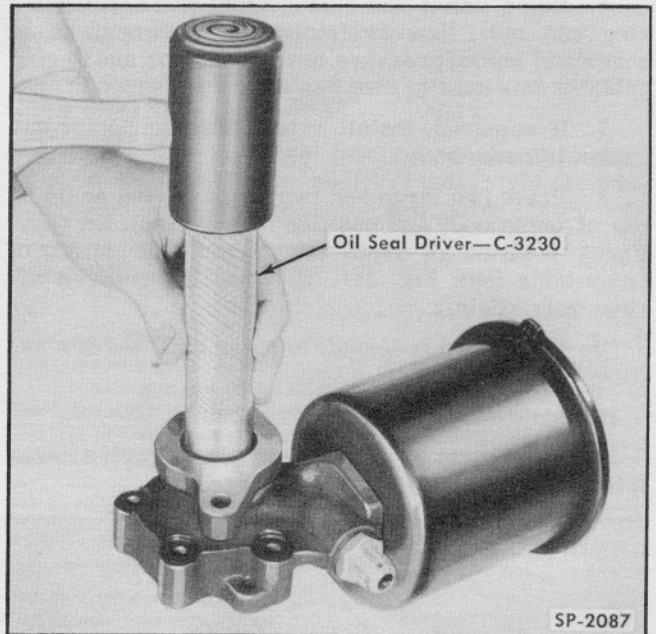

Fig. 19—Installing Pump Shaft Oil Seal
1. If old seal was removed, wet lip of new pump shaft oil seal in automatic transmission fluid and install in pump body with lip toward rotor pocket using Oil Seal Driver C-3230 (Fig. 19). Press seal in solidly, but do not squash.